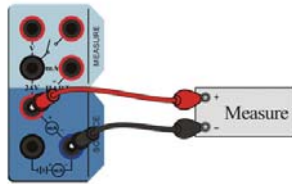
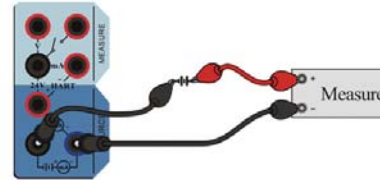

Figure 3-6 Internal 24V power supply
Figure 3-7 External power supply
2. Connection: Complete the electrical connection as shown in Figure 3-6 or Figure 3-7.